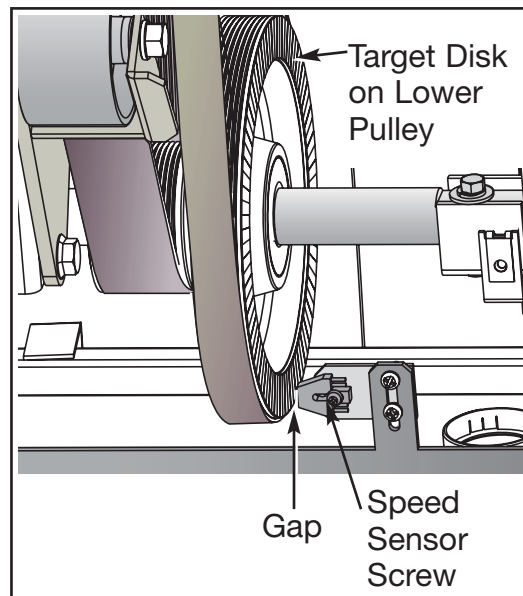

Figure 3
- A. Turn the lower pulley slowly and look for dirt, scratches or other damage on the target disk. See Figure 3. **NOTE:** *If the target disk or speed sensor is dusty use a soft dry cloth to wipe off the dust. A dirty, scratched or damaged disk may cause Error 3 to occur.*
- A. Measure the gap between the speed sensor and the lower pulley. It should measure 3/16" (.48 cm) and should be parallel to the lower pulley. See Figure 3.
- A. Using a Phillips head screwdriver, loosen the screw securing the speed sensor in place. See Figure 3. **NOTE:** *Gently bend the side cover to get at the speed sensor screw.*
- B. Adjust the gap between the speed sensor and the lower pulley to 3/16" (.48 cm) and tighten the screw. See Figure 3.